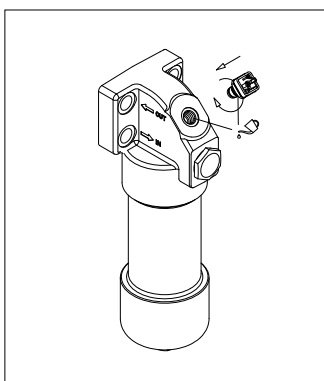

fig. 15
- (Fig. 15) Lubricate with the operating fluid the thread and the O-ring of the indicator body, then screw the indicator body in referring to the tightening torque table in paragraph 3